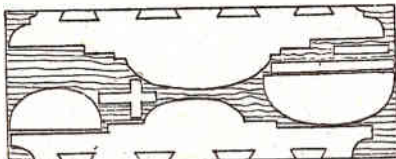

Fig. 1—How the pattern pieces are placed on the K4 panel
Begin construction of the tablet by taking one of the K4 panels (20ins. by 8ins.), and transferring on to it the pattern pieces for the upper rail, lower rail, overlays (D) and (C), the cross, and upper and lower backing pieces. Care should be taken to see that the pieces are transferred to the wood in the manner shown in Fig. 1, otherwise it is probable that the worker will find himself with insufficient wood to complete the job.